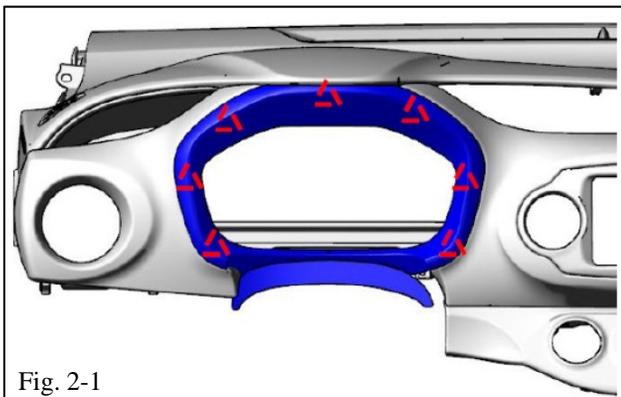

Fig. 2-1
(1) Adjust the steering wheel to the lowest position for easy access to the panel.
(2) Manually pull the panel forward to disengage all seven clips (Fig. 2-1).
(3) Remove the panel.